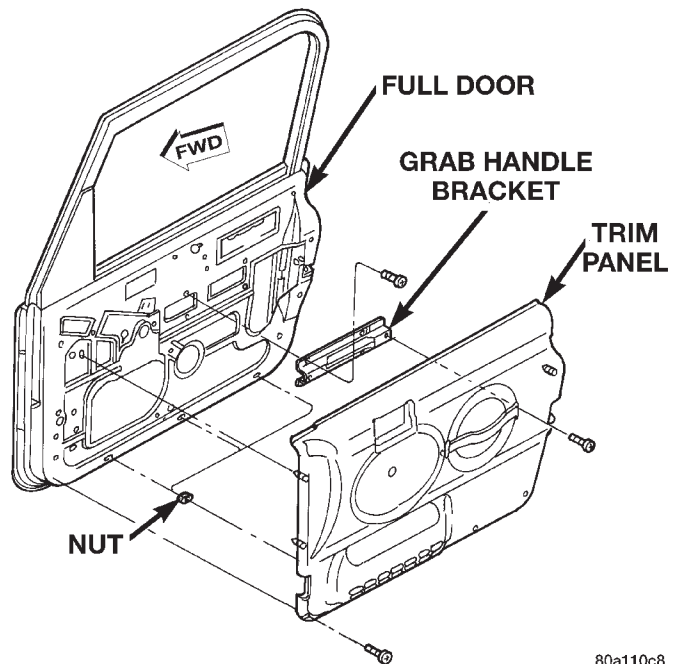
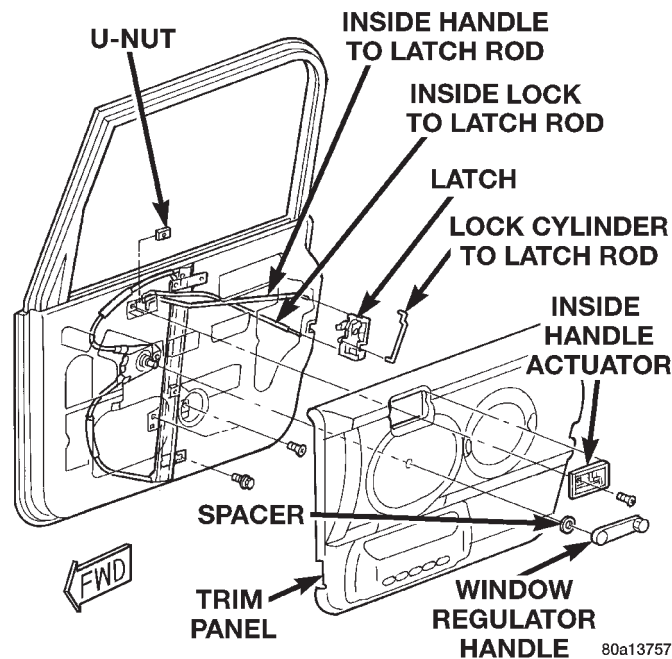
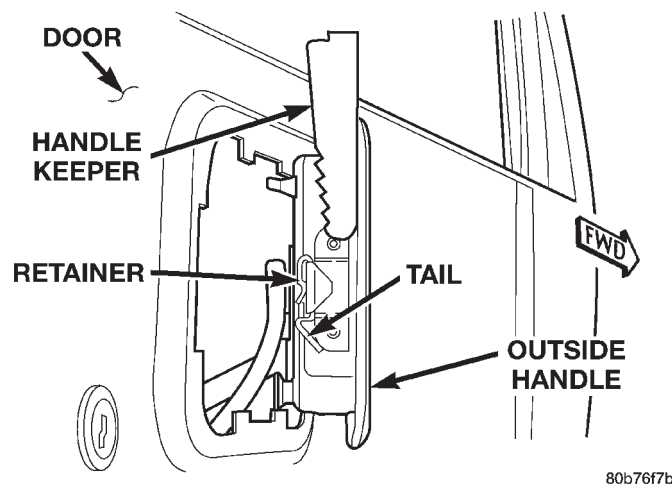

Fig. 20 Grab Handle Support Bracket
Fig. 21 Latch Rods
Fig. 22 Outside Door Handle Removal
(1) Remove the door trim panel.
(2) Position the window in the full upward position.
(3) Remove the grab handle support bracket (Fig. 20).
(4) Peel back the waterdam from the door inner panel to access the door latch.
(5) Disconnect from the latch, the inside lock knob to latch rod and, the outside release handle to latch rod (Fig. 21).
(6) Disengage tail of retainer from handle keeper.
(7) Using a long flat blade, tap the handle keepers upward and remove from the door handle (Fig. 22).
(8) Remove the latch release rod from the door handle.
(9) Separate the handle and gasket from the door.